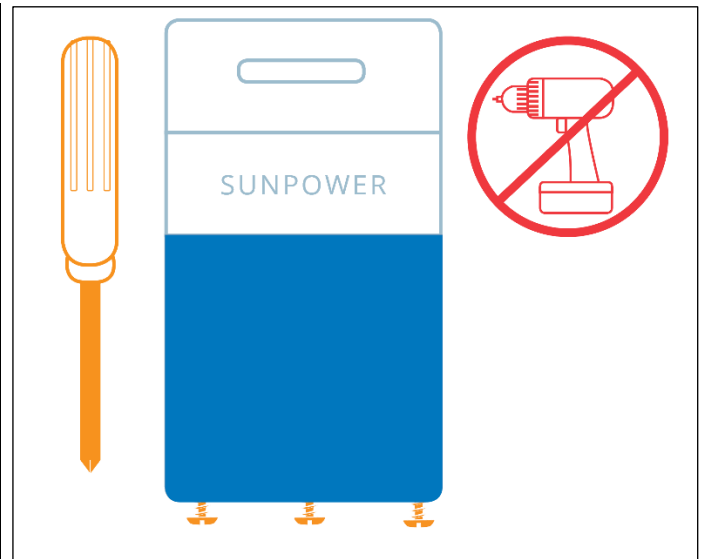

Fig. 44
3. Use a screwdriver to tighten the three screws on the bottom of the enclosure (Fig. 44).